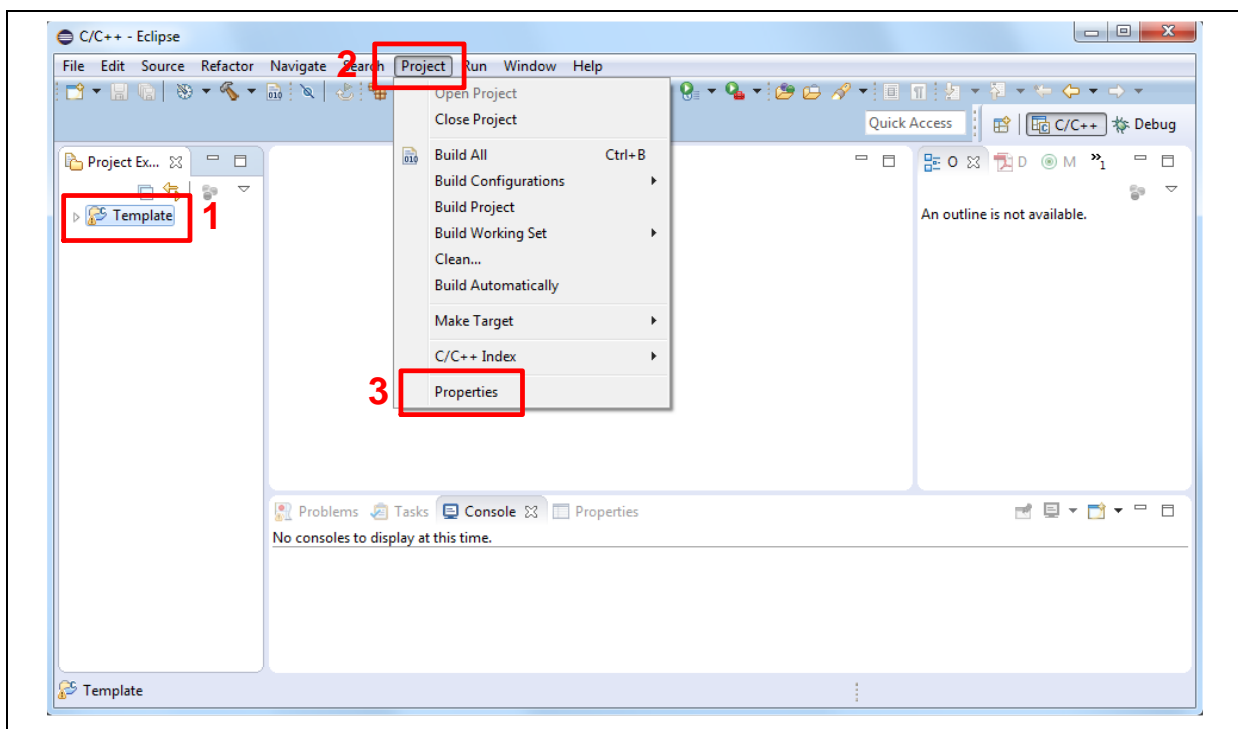
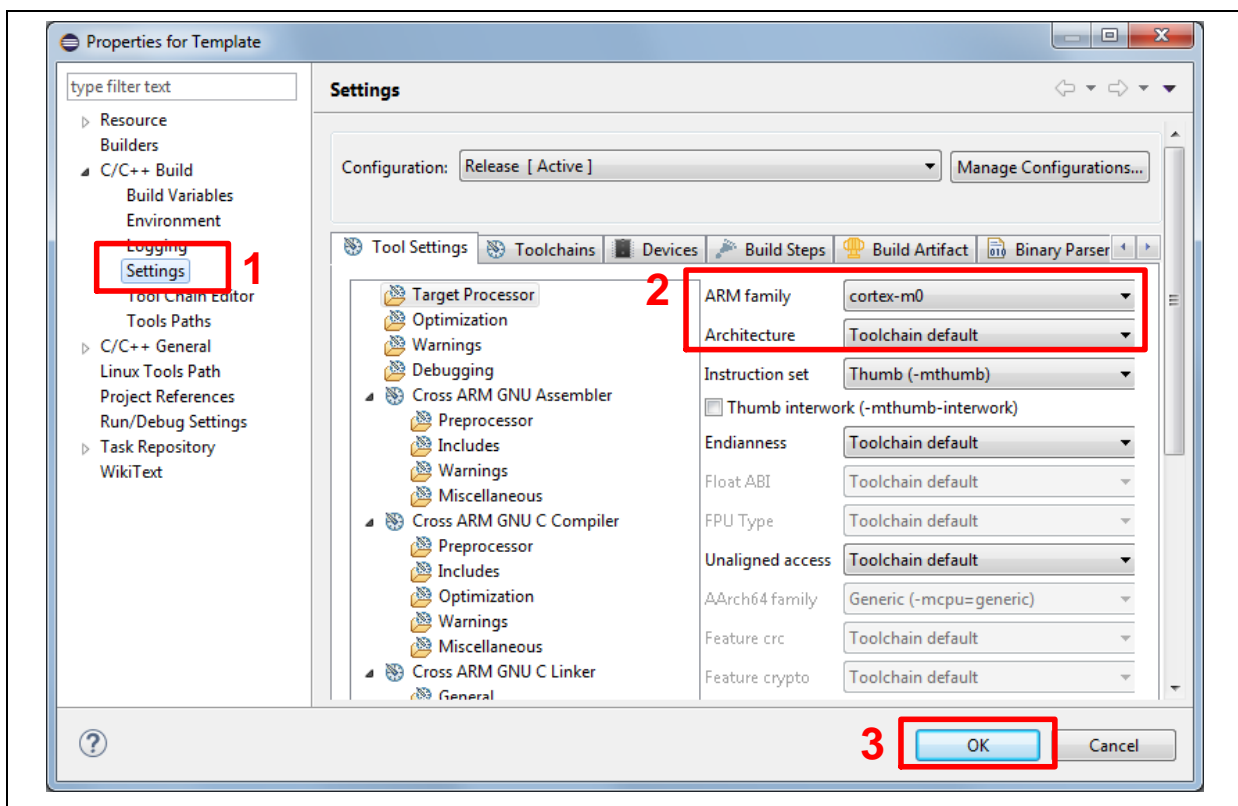

Figure 3-29 Open Project Properties Window
Figure 3-30 Project Properties Settings
- Click the "Template" project and find the project properties as shown in Figure 3-29. Make sure the settings are the same as settings in Figure 3-30.